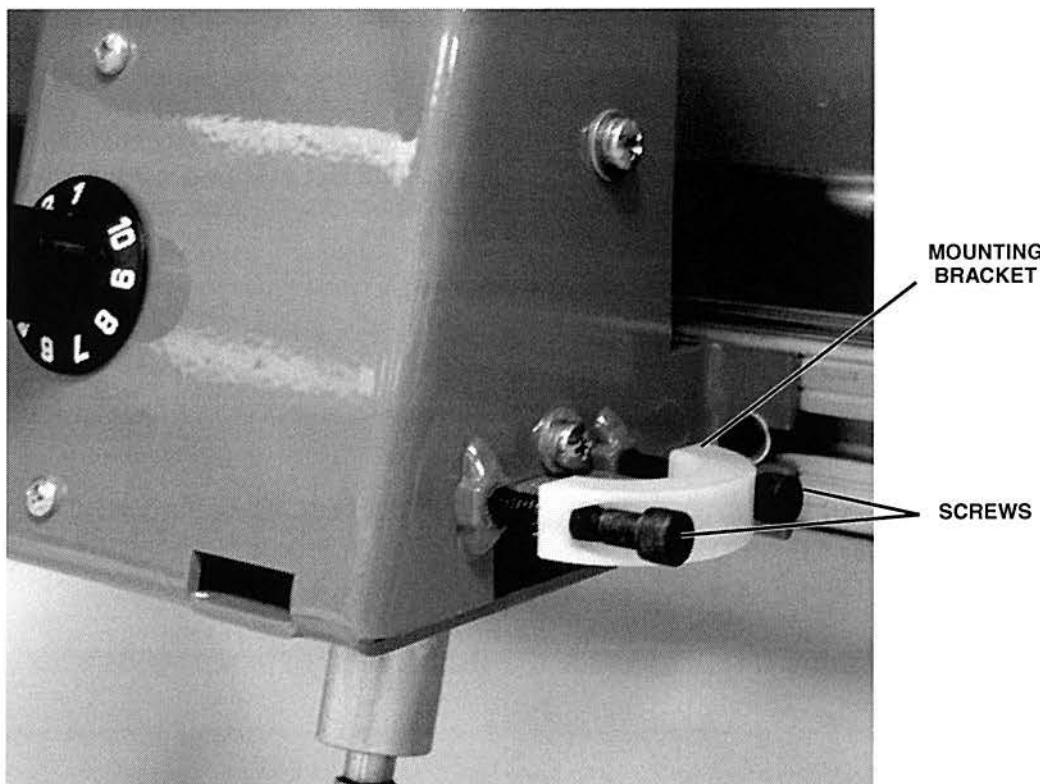

Figure 34. Screws that Secure the Mounting Bracket
- A. Using a 3/16 hex wrench, loosen the two screws that secure the mounting bracket, shown in figure 34, and remove the loose half of the bracket.